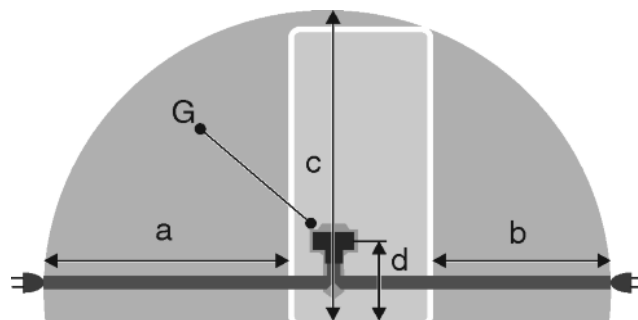

Fig. 28
- The socket is outside the back of the appliance area in the specified area *Fig. 28 (a, b, c)*.
- Insert the appliance plug *Fig. 28 (G)* into the back of the appliance. Ensure that it clicks into place.